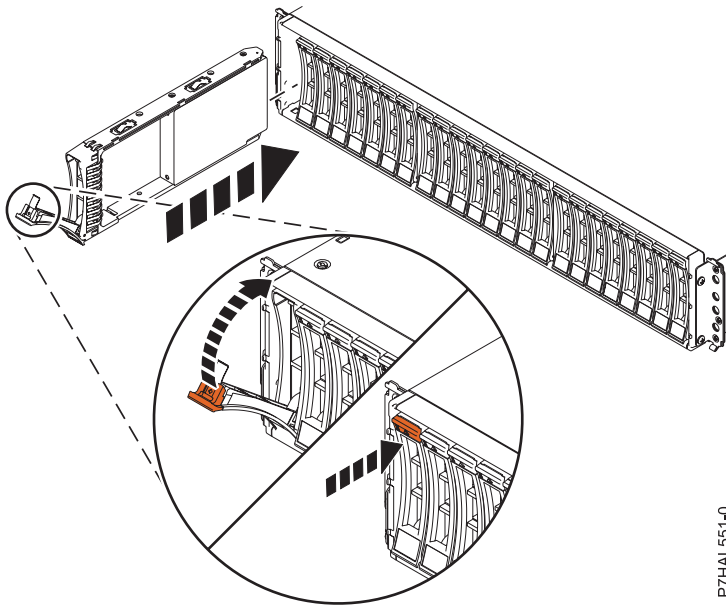

Figure 23. Installing the disk drive in the 5887 disk drive enclosure
1. With the handle in the unlocked position, as shown in Figure 23 on page 28, support the bottom of the drive as you align it with the guide rails in the expansion unit.